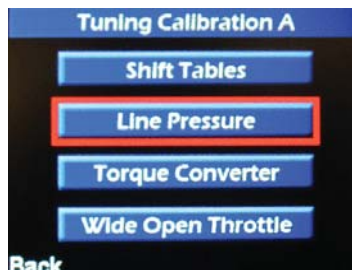

Figure 12
1. To alter, select “LINE PRESSURE” using the “UP” and “DOWN” arrow buttons and press the “OK” button (Figure 12).